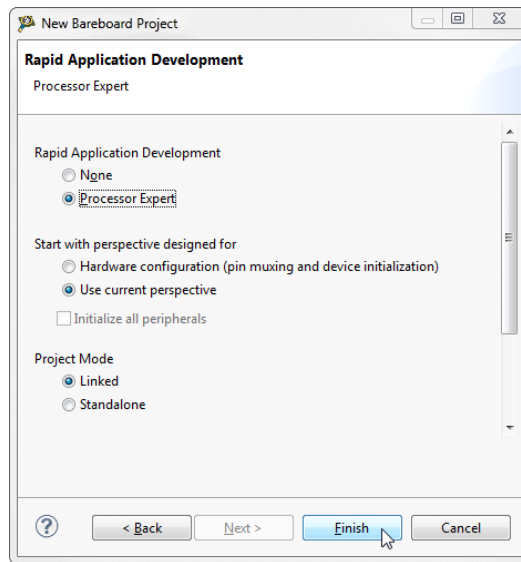

Figure 11. Select the Processor Expert option
3. Select the **Processor Expert** option, and then click Finish (see Figure 11).